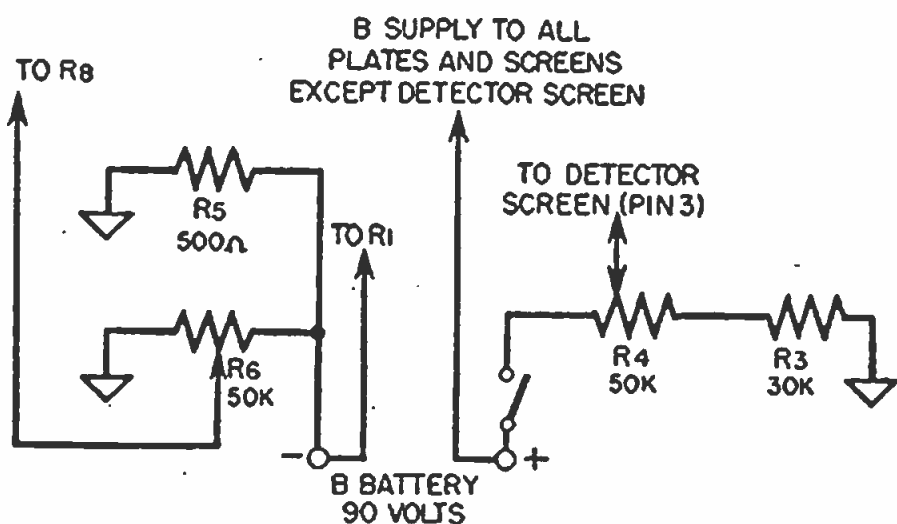

Fig. 8-17. B. supply circuit.
b) *B Supply Circuit.* See Figure 8-17.
Connect the left-hand terminal of the volume control (as you face the shaft end of the control) to the B-minus terminal (see B-supply diagram, Figure 8-17). Connect one end of the coupling condenser, C3, to the high side of the control (the terminal at the extreme right). The grid terminal of the tube socket is now connected to the center terminal of R1. The blue wire (or plate terminal)
a wire to the tube-socket terminal 2. Connect the free end of C4 to chassis and the free end of L1 to one terminal of L2, the audio choke. If L2 is provided with terminal lugs, one of these may be used as a convenient junction point. The opposite end of L2 may now be connected to B plus (refer to the B-supply diagram, Figure 8-17, when making this connection).